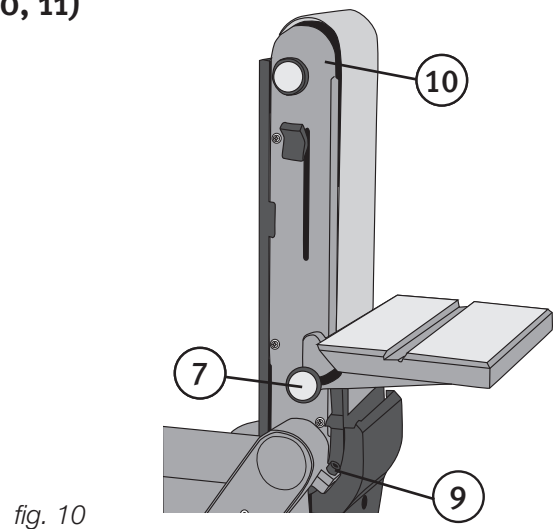

fig. 10
3.4 Using the side table for belt sanding (fig. 10, 11)
2. Unscrew the work stop (3).
3. Undo the locking screw (9), raise the belt frame (10) and then tighten the locking screw.
5. Tighten the locking knob ((7) in fig. 10).